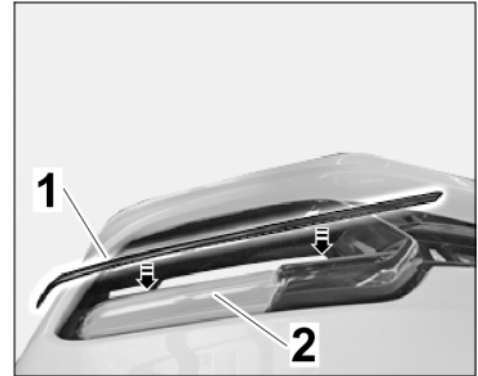

Figure 33
3.8.2 Stick decorative insert into auxiliary headlights (⇒ *Figure 33*).